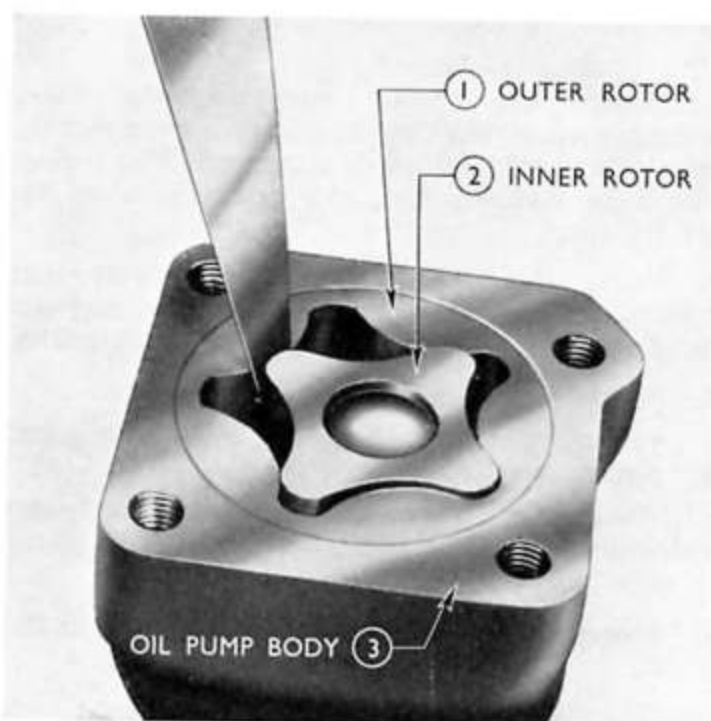

Fig. 58
3. Check the clearance between the lobes of the inner and outer rotors. This should be checked in the positions as shown in Fig. 58, and must not exceed 0.0635 mm. (0.0025 in.). Check the clearance between the outer rotor and the housing, this should not exceed 0.279 to 0.328 mm. (0.011 to 0.013 in.).